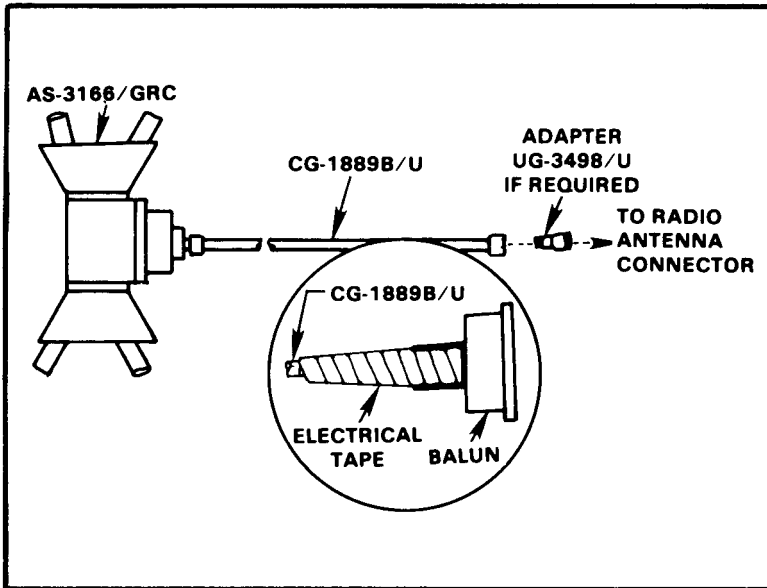

Figure 3-12. Connections of CG-1889B/U to AS-3166/GRC and radio.
**NOTE:** For AN/VRC-12 family FM radios with BNC type antenna connectors, use the UG-349B/U adapter on the end of the CG-1886B/U RF cable (Figure 3-12).